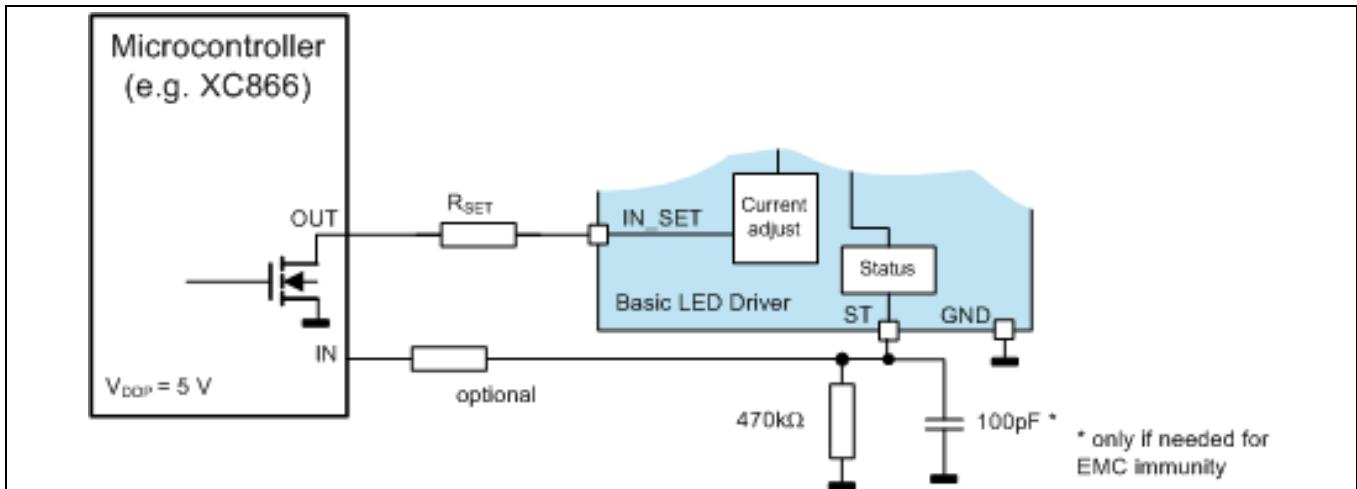

Figure 20 Possible circuit to use ST pin for diagnosis
- An example circuit is given in Figure 20 for the case where the ST pin is used for diagnosis. The IN\_SET resistor and IN\_SET pin in this case are only used to set the output current and to turn the channel on and off.